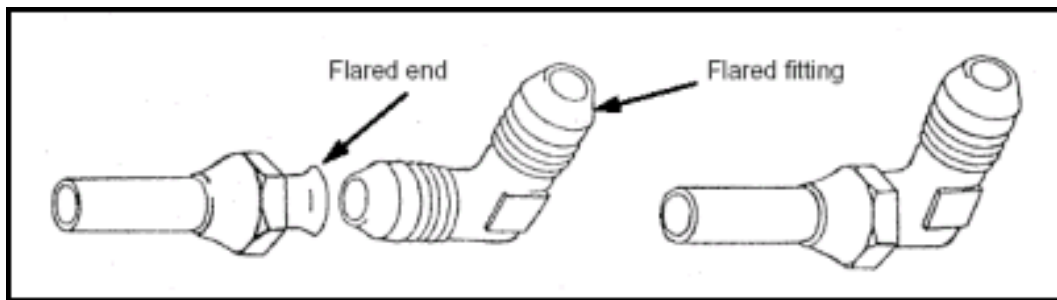

Figure 6-38. Flared Joint
Step 4. Slide the flare/compression nut up to the flared end and screw it on the fitting hand tight, then tighten the flare/compression nut (Figure 6-38).